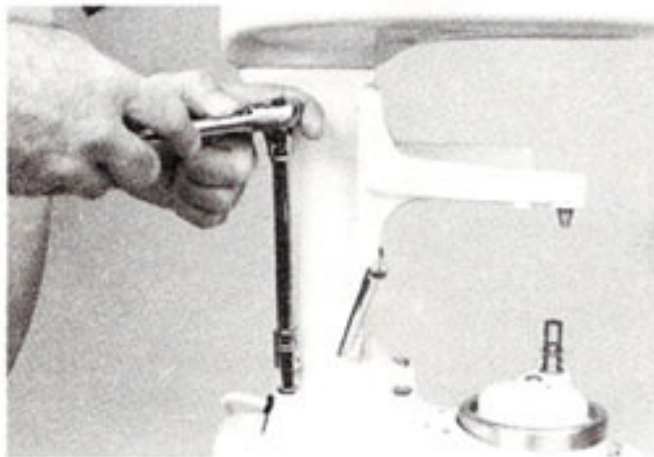
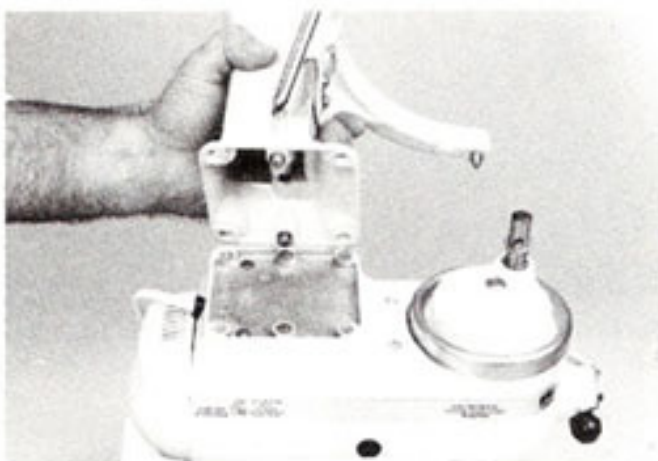

Fig. 86
Fig. 87
C. To replace the bowl support, remove the four $\frac{5}{16}$ "-18 x $\frac{3}{4}$ " round head screws (Fig. 86) and lift the gear case and motor housing off the column (Fig. 87).